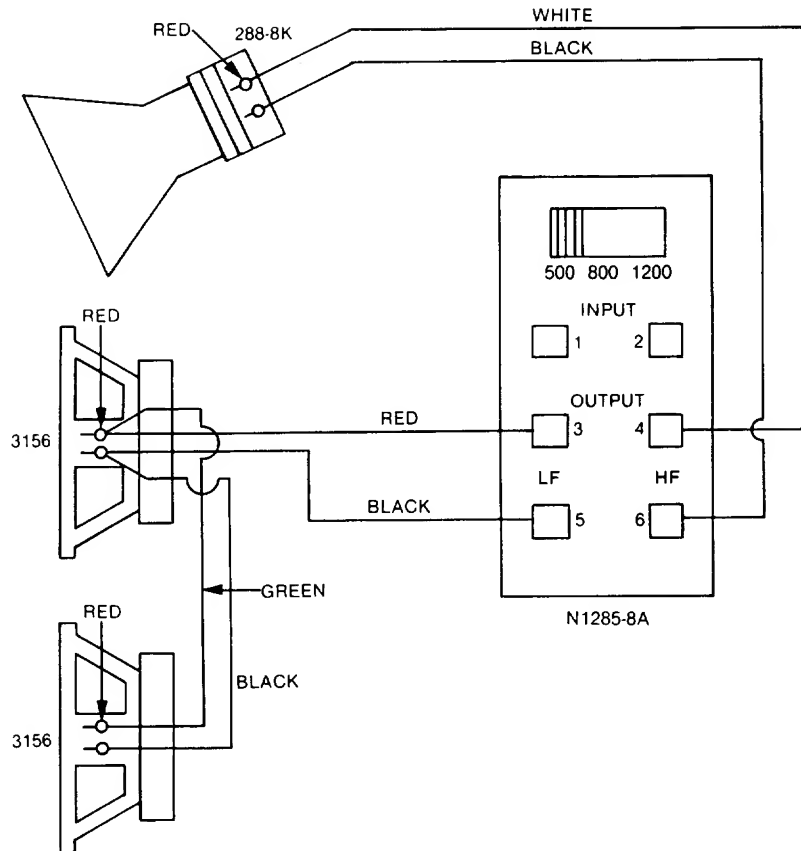

Figure 2. Wiring Diagrams for Four-Ohm Operation
4. Unpack the two 3156 LF loudspeakers. Attach a green and black wire to the terminals of one loudspeaker. See Figure 2.
the second loudspeaker as shown in Figure 2. Feed the attached red and black wires through the hole drilled in the top of the cabinet (Step 2) or through one of the bass reflex ports; install the second loudspeaker in the remaining baffle opening and secure it with the eight screws packed with the loudspeaker.
13. Set the frequency switch of the N1285-8A to 500 Hz or 800 Hz. Wire the N1285-8A according to Figure 2.